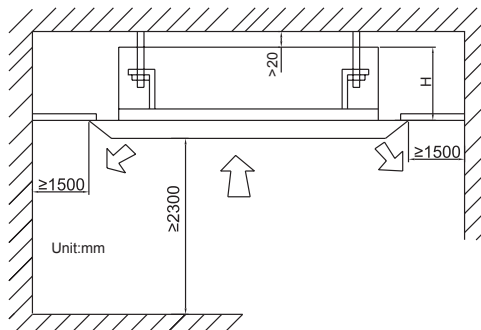

Fig.5
- (1) Schematic diagram of installation (as Fig.5).